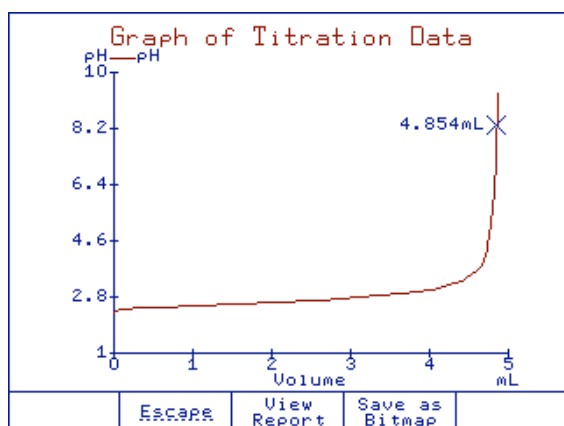

Figure 3. Fixed endpoint (pH)
- » **Figure 3** displays the pH readings vs. volume of titrant.